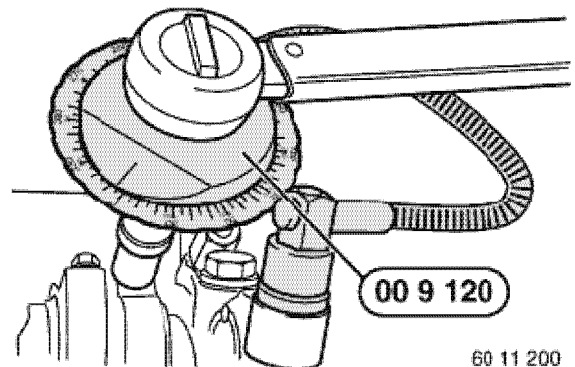

Figure 5-63
13. Lightly oil NEW bolts and install to an initial torque of 5 N·m (44 in.-lb) (Figure 5-63). Torque-turn tighten to final specification of 20 N·m (177 in.-lb) plus 70°.